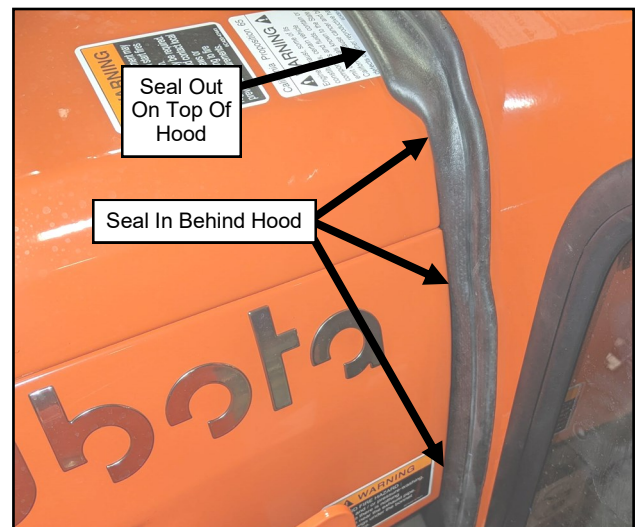

Fig. 6.2 (Left Side Of Hood And Cowl)
- 6.2 For the left side of the hood and cowl, pull the cowl seal out on top of the hood in the center, then transition it to behind the hood at the corner. See Figure 6.2.